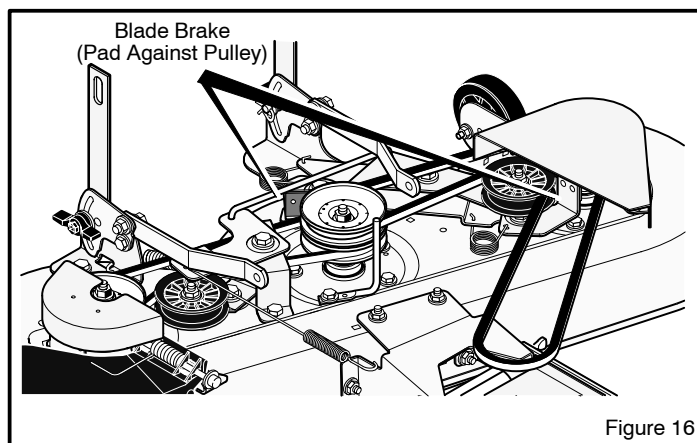

Figure 16
8. Move the **blade rotation control** to the **DISENGAGE** position. **Stop the engine**. Disconnect the wire from the spark plug. Check the operation of the **blade brake**. Rotate the pulleys with your hand. Make sure the **brake pads** are pressed tightly against the pulleys (Figure 16).